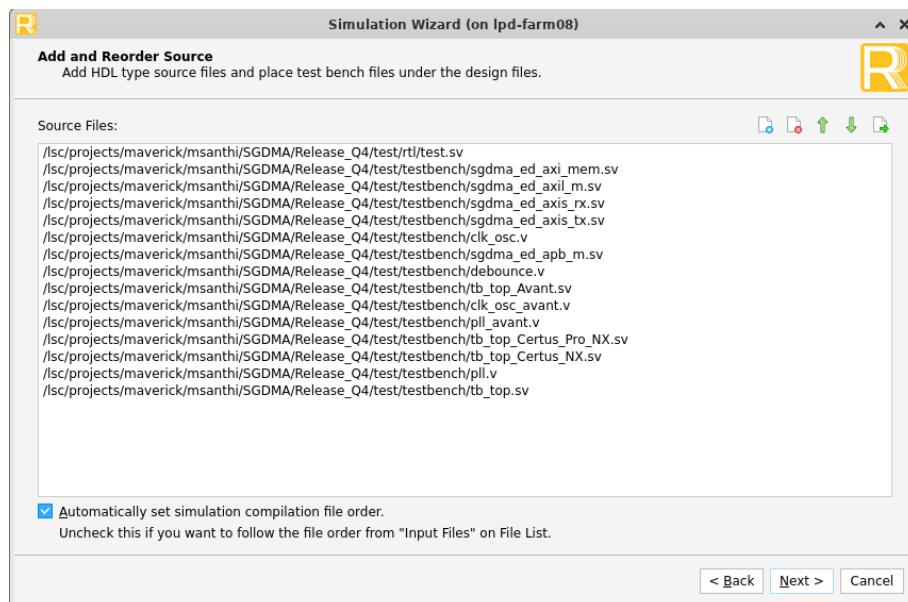

Figure 6.7. Add and Reorder Source
2. Click **Next** to open the **Add and Reorder Source** window as shown in Figure 6.7.